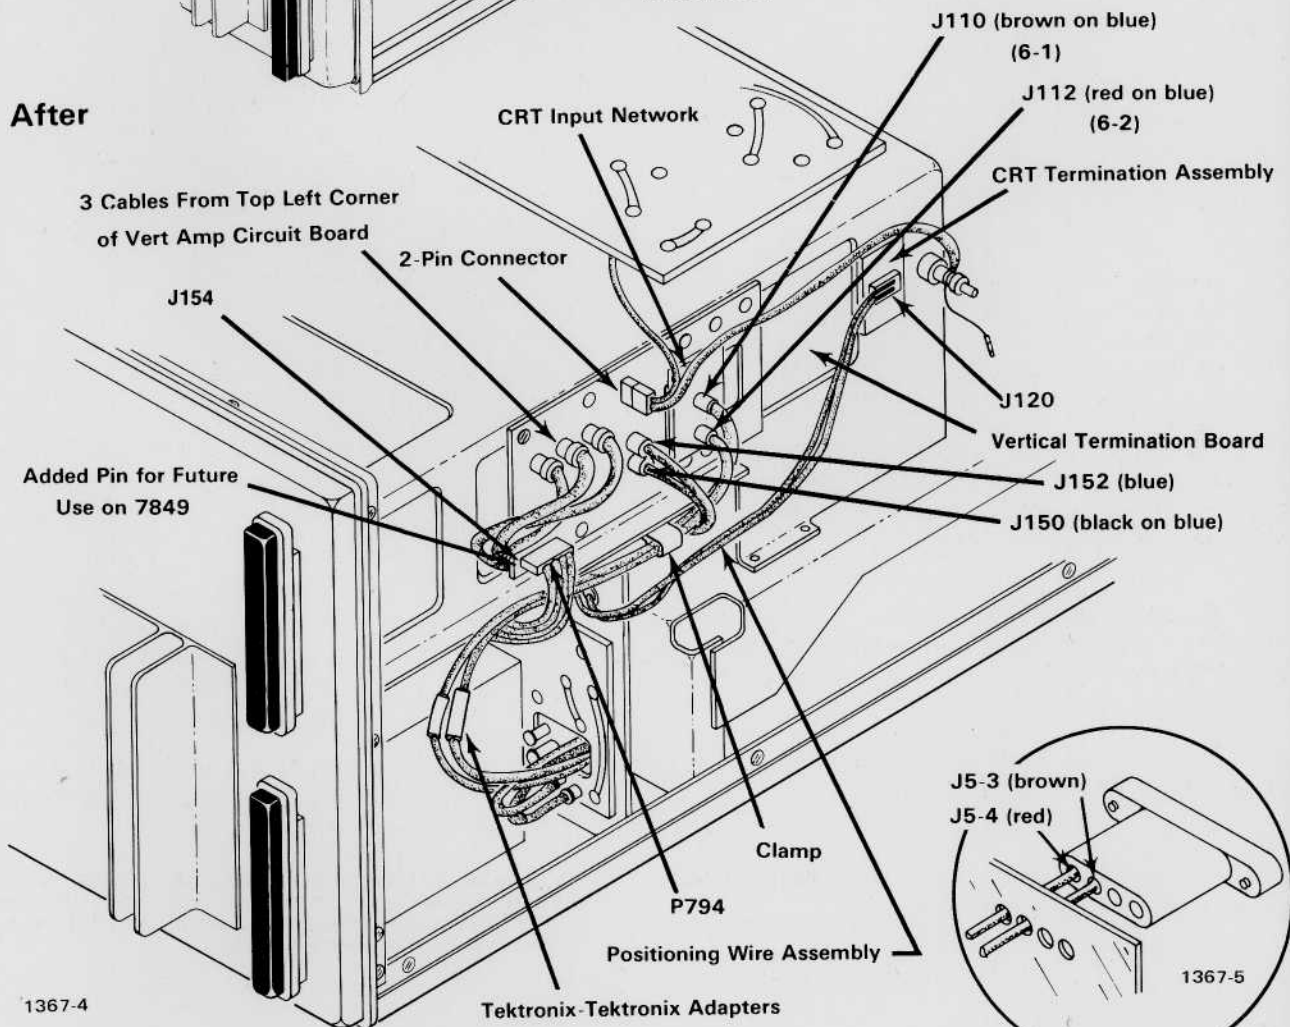

Fig. 10. Shows board positions and cable connections
a. Remove the two screws securing the CRT Termination assembly to the oscilloscope chassis, refer to Fig. 10, for location. Disconnect the pin connectors from the crt. Remove the CRT Termination assembly.
d. Insert the connectors of the Positioning Wire assembly into sockets J5-3 and J5-4, located on the oscilloscope interface connector. Refer to Fig. 10 and close-up in Fig. 10A. Push the connectors into the sockets until they snap into place. It may be necessary to use a pair of long-nose pliers or tweezers to push the sockets until they extend beyond the plastic housing. These connectors are now permanently installed and cannot be removed.
to Fig. 10 and